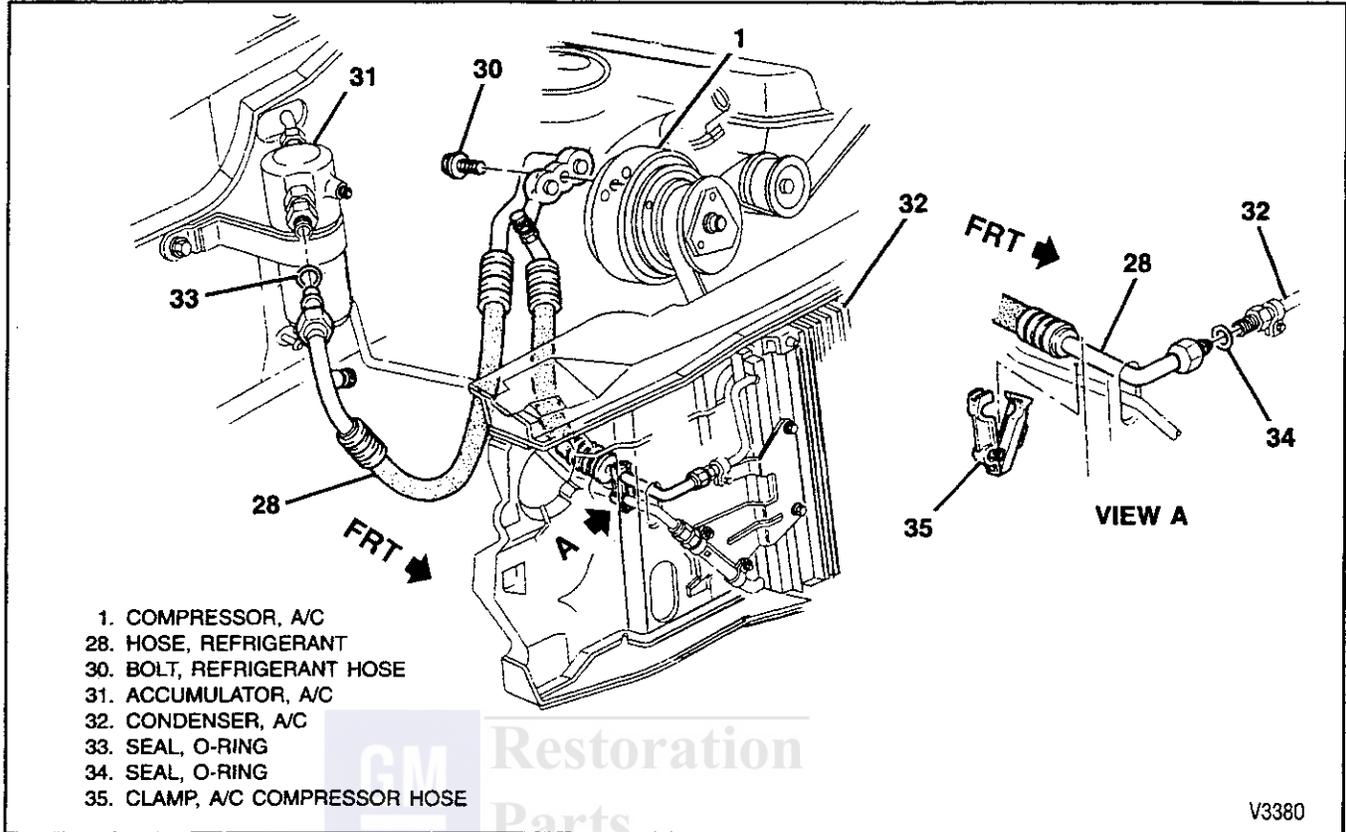

Figure 26—Compressor and Condenser Hose Assembly
- Pickup/Extended Cab Models (4.3L, 5.0L, 5.7L, and 7.4L Engines): refer to figure 26.
- All Models (6.5L Diesel Engines): refer to figure 26.
- Suburban/Crew Cab Models (7.4L Engines w/o Aux. Heater or A/C): refer to figure 26.
Remove or Disconnect (Figures 26, 27, and 28)
↔ Install or Connect (Figures 26, 27, and 28)